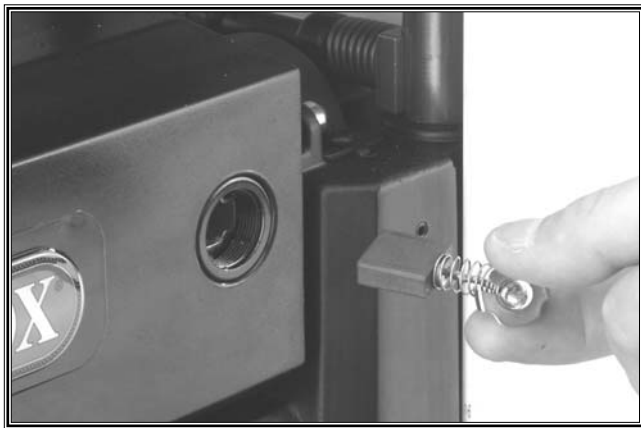

Figure 34. Remove/Install the motor brush.
3. Carefully slide out the spring and carbon brush. See Figure 34.